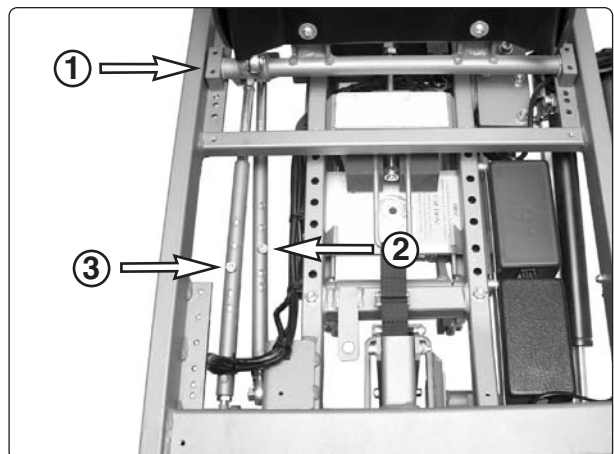

Fig. 6. The marking for the bearing brackets and the parallel strut must agree
2. Unscrew and remove the locking screw from the backrest's parallel strut, see Fig. 6:2.
3. Unscrew and remove the locking screw from the armrest's parallel strut, see Fig. 6:3.
4. Remove the backrest's bearing brackets. These are mounted using two screws each from the bottom, see Fig. 6:1 and 7.
7. Remount the locking screw in the arm rest's parallel strut. Mount the locking screw in the position with the same marking as the bearing brackets, see Fig. 6:3.
8. Remount the locking screw in the backrest's parallel strut. Mount the locking screw in the position with the same marking as the bearing brackets and the armrest's parallel strut, see Fig. 6:2.